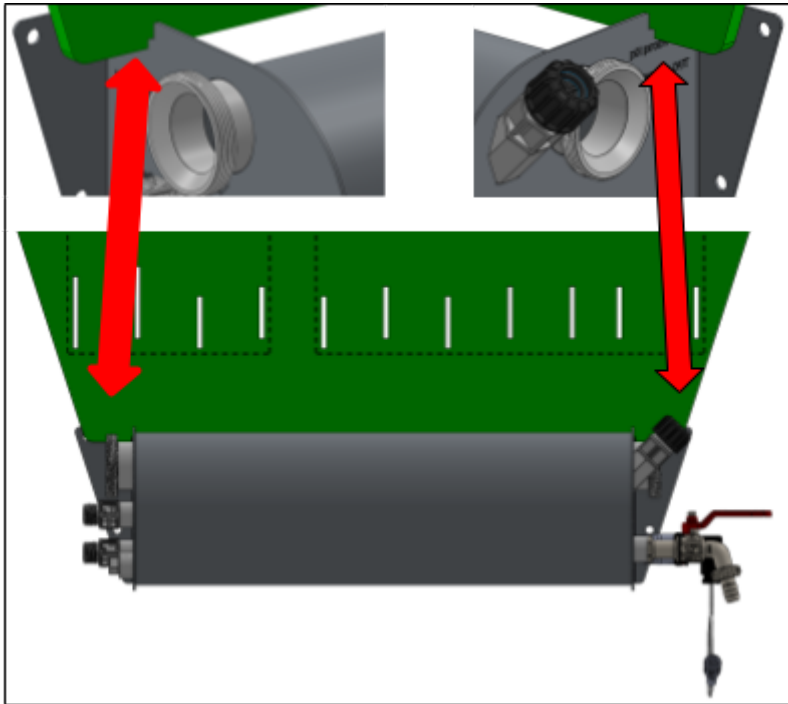

Figure 23.
- Lower the back panel into the slots of the mixing tank. (See Figure 23)